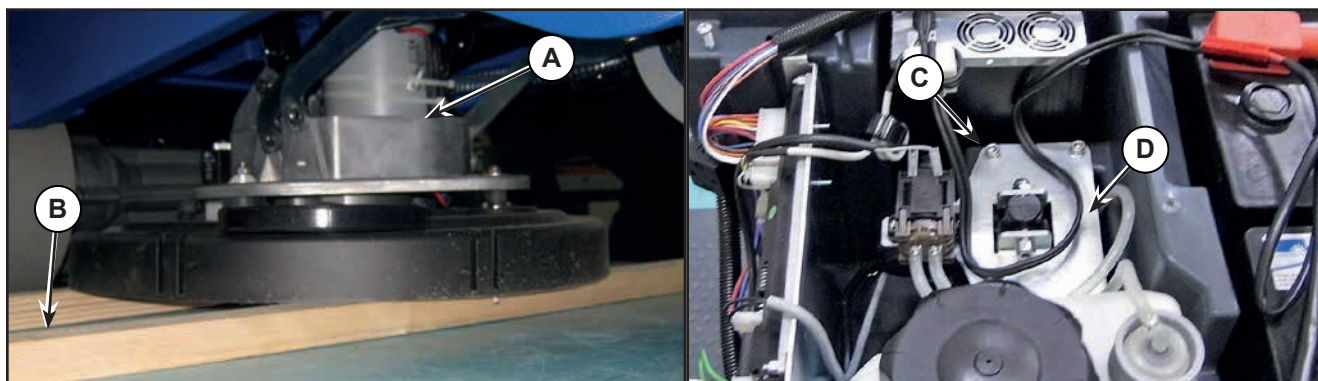

Figure 8:
3. Place two wooden shims (B, Figure 8), at least 4 cm thick, under the brush deck (A).
9. Remove the 4 screws (C) and remove the actuator plate (D).
10. Remove the screw (E, Figure 8) and release the actuator lower pin (F).
11. Disconnect the electrical connection (G) and the detergent hose (H) from the solenoid valve (I).